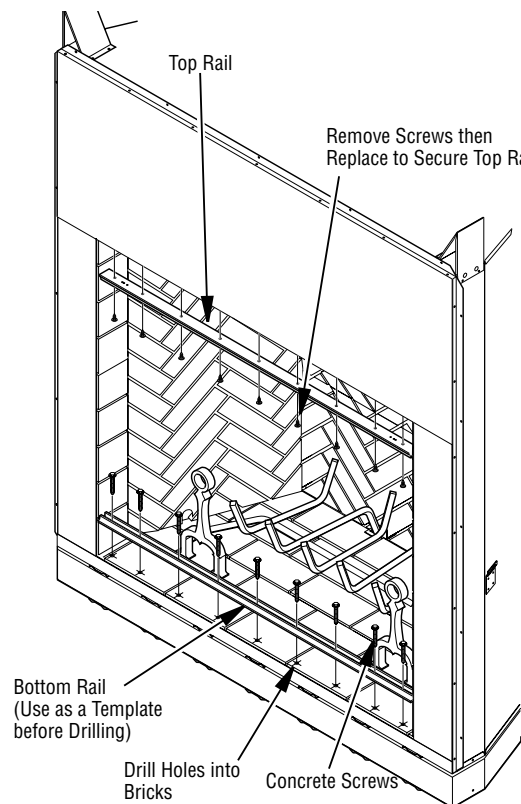

Figure 38 - Securing Door Rails to Fireplace
1. Remove screws securing top face to firebox (see Figure 38).
3. Using remaining door rail as a template, place along front row of bricks at bottom making sure rail front surface is flush with fireplace bottom face surface. Mark hole centers and remove rail (see Figure 38).